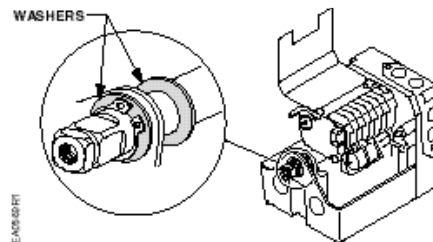

Figure 5.
- Put one of the washers on the insert end of the shaft. See Figure 5.